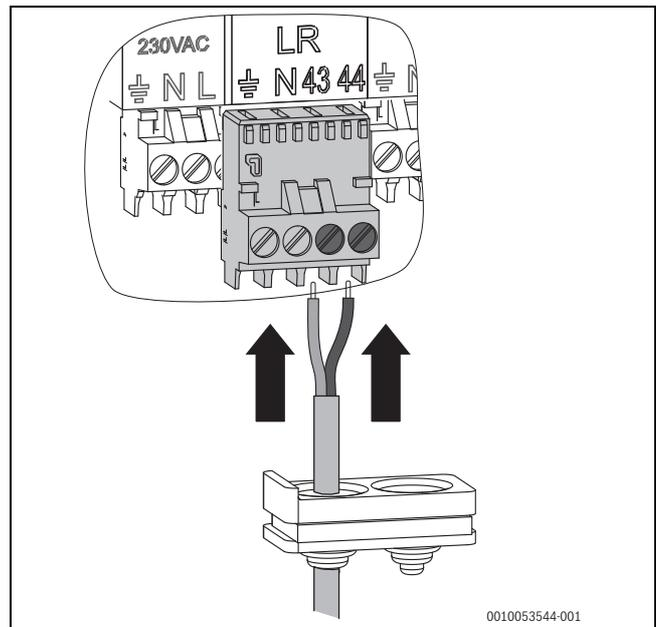

Fig. 30 Connect the connection line of the external controller to the terminal
- ▶ Connect the connecting cable of the controller to terminal connections **43** and **44** properly (→Fig. 30)